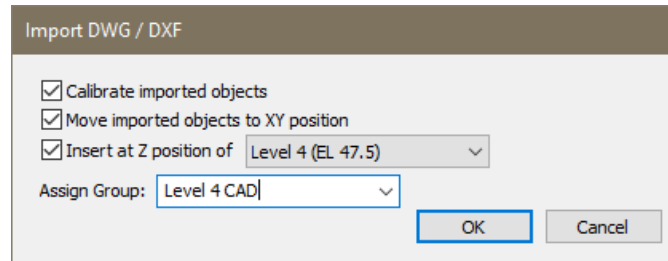

Figure 4-3
- Click on the *Assign Group* text box and type "Level 4 CAD", after this the *Import DWG/DXF* window will look as shown in **FIGURE 4-3**.